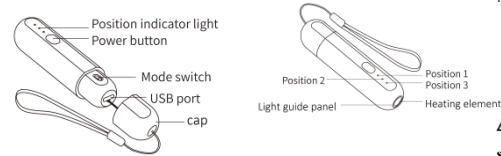

Figure 1 Appearance
B. Power button: exit the standby mode and start heating; switch the heating time (3 positions of heating time for each mode). The position indicator light indicates the position (as shown in Figure 1) of the heating time, Position 3: the heating time is longest, Position 2: the heating time is moderate, Position 1: the heating time is shortest.